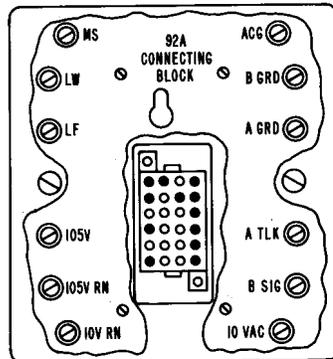

Fig. 6— 19-, 20-, 29-, or 30-Type Power Unit Connection Using 92A Connecting Block
**3.05** Where power cannot be supplied by a 79B-type power unit, power can be supplied from a separate 19-, 20-, 29-, or 30-type power unit. A 92A connecting block (Fig. 6) provides a means for connecting the power cable of the 626A panel to the power unit. An interrupter must be provided with the separate power unit to furnish the interrupted volt-